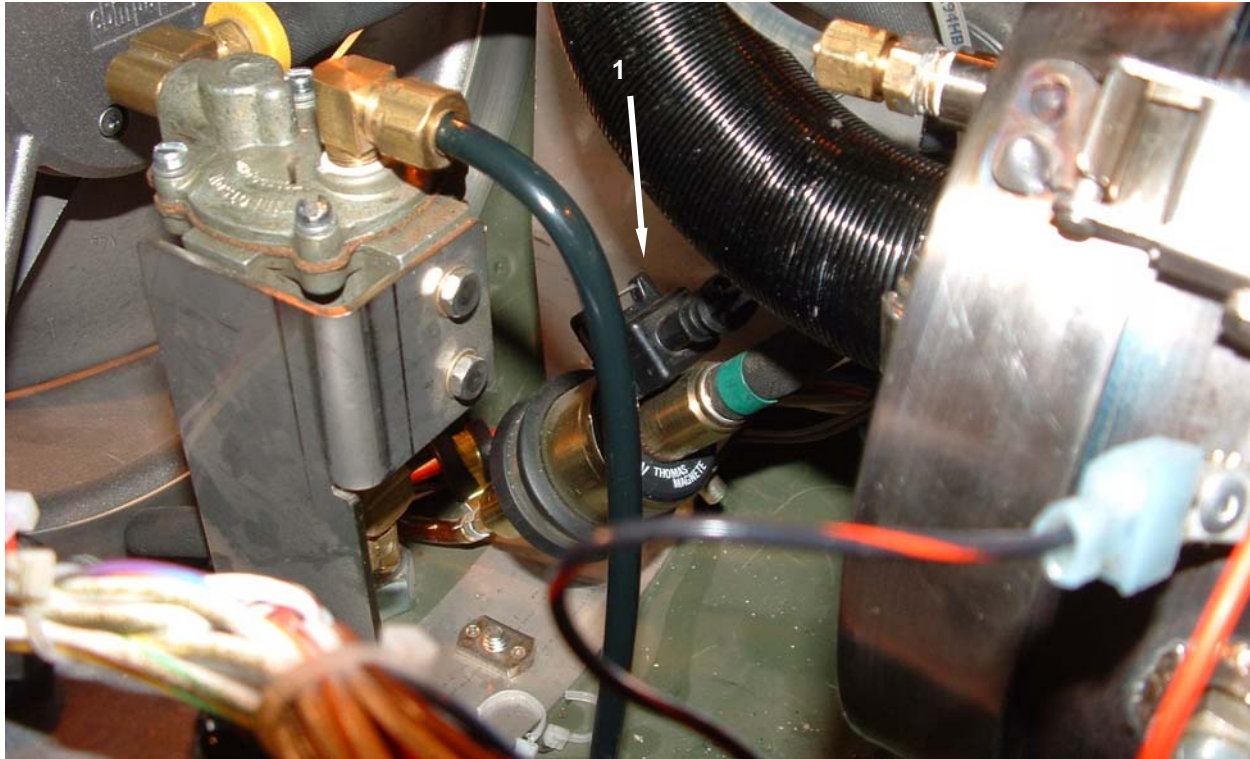

Figure 7. Replace the Electronic Box Assembly, Complete with Wire Harness – Connect Fuel Pump.
16. Connect the fuel pump electrical connector (**Figure 7, Item 1**) by pressing the wire clip on the connector.
17. Push the solenoid connector (**Figure 7, Item 2**) through the hole in the heater body.